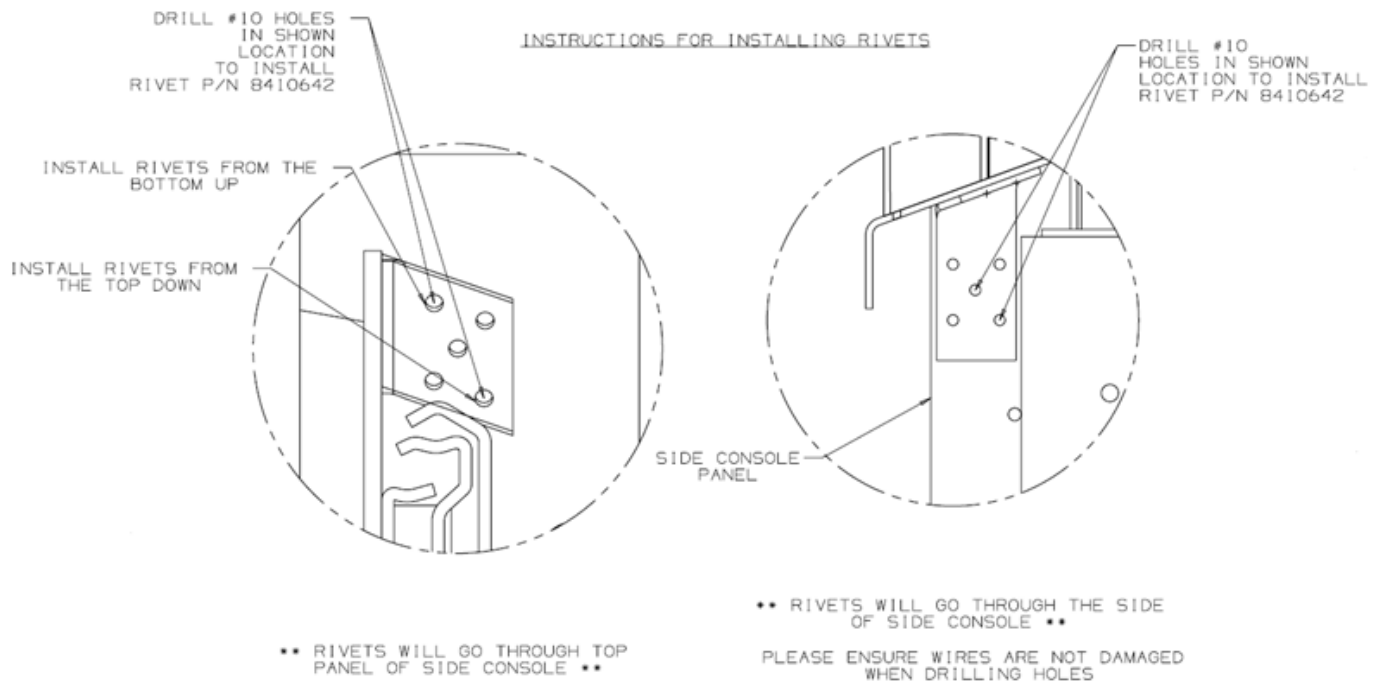

Figure 2: Rivet Hole Locations and Rivet Orientation Instructions
- f. Using a drill and a #10 drill bit, drill four through holes in the front bracket in the four locations shown in Figure 2. Rivets will go through the side console top panel and through the side of the side console box.
- g. Install two black rivets (NF PN 8410642) in the side console top panel in the correct orientation as shown in Figure 2.
- h. Install two black rivets (NF PN 8410642) in the side of the side console box in location shown in Figure 2.